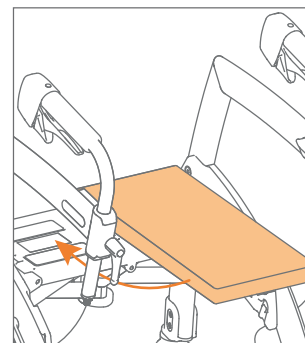

Figure 16: Cushion placed on the seat.
- c. Attach the cushion flat on the seat (**Figure 16**).